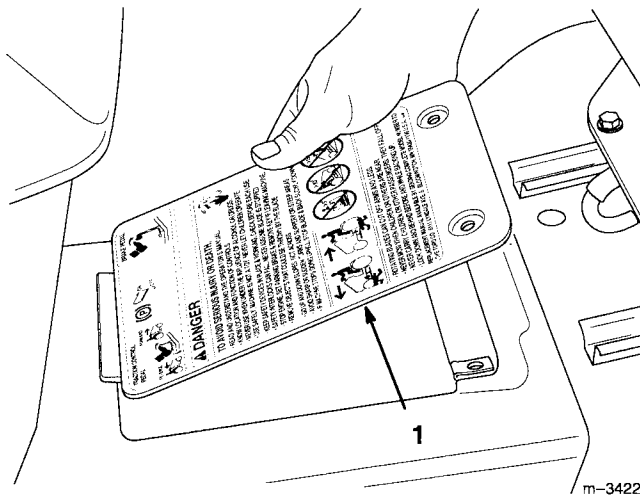

Figure 29
3. Open the drive shaft maintenance cover on the tractor tunnel near the seat by unscrewing the two screws securing it, then raising it (Fig. 29).